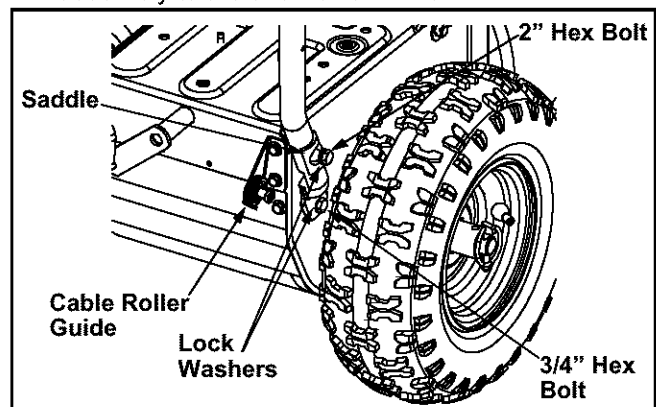

Figure 6
- Raise the handle assembly into the upright position and align the top holes in the handle with the top holes in the snow thrower frame. Attach using 2" long hex bolts, lock washers and saddles. (Curve in saddle must match the curve in the handle.) See Figure 6.